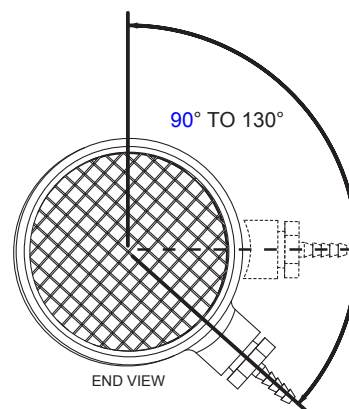

Figure 15. Orientation of Intake Air Tee Fittings
Ensure the hose barb installed in the Tee fitting is **not** facing down towards the ground (180° - 6 o'clock position) before venting installation begins. The barb fitting must be angled between 90° and no more than 130° as shown in **Figure 15**. If the barb fitting is facing down, residual condensate that occasionally forms in the intake air pipe can drain into the Blocked Intake Air switch through the attached sensing tube and damage the switch. This condition can also lead to Blocked Intake Air fault conditions and associated control system lock outs.
The intake air Tee fitting is factory-installed with the 1/2 inch branch and hose barb angled to the right at approximately 130° when viewed from the end. See **Figure 15**. The Tee fitting's 1/2 inch branch and hose barb must not be angled any lower (towards the ground) than this factory specification. Angling higher, up to a 90° position, will not adversely affect operation and is acceptable.
Inspect the angle of the Tee fitting's 1/2 inch branch and hose barb while viewing from the end of the Tee. See **Figure 15**. If the angle of the Tee fitting 1/2 inch branch and hose barb is lower than shown, adjustment will be necessary. To adjust the intake air Tee fitting angle follow the steps listed below.
4. Adjust the angle of the Tee fitting so that the 1/2 inch branch and hose barb are at the proper angle as shown in *Figure 15*.